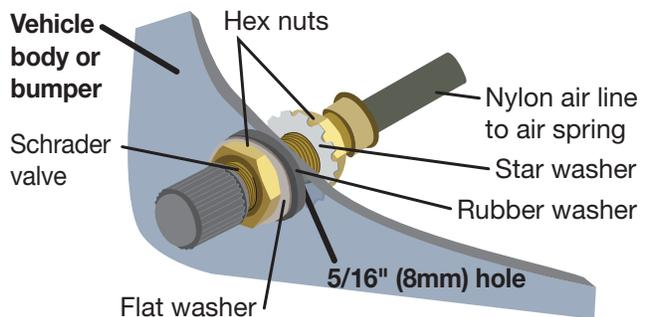

Fig. 19
4. Install the Schrader valve in the chosen location (Fig. 19).